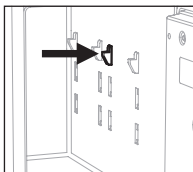

Figure 1
1. To install the shelf, insert the clips into the recesses along the inside wall, positioning them at the same level. (Figure 1)